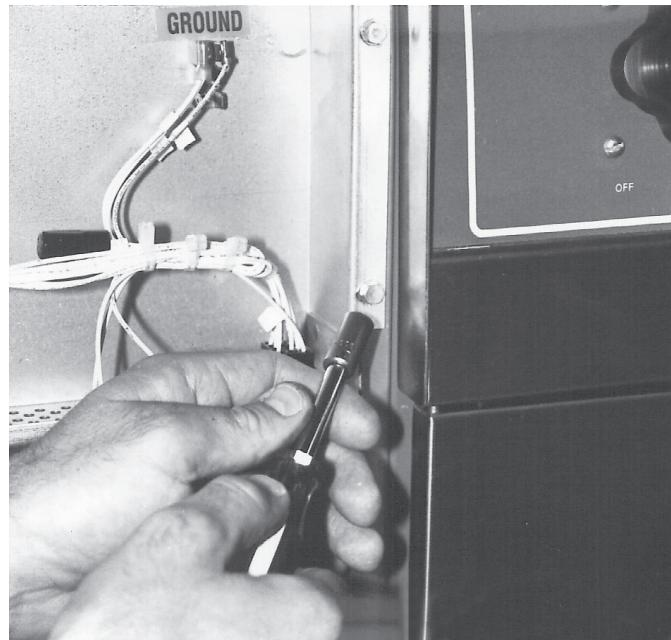

Fig. 26
3. With a  $\frac{5}{16}$ " socket, remove (4) screws holding the housing to the cooker frame. (Fig. 26)